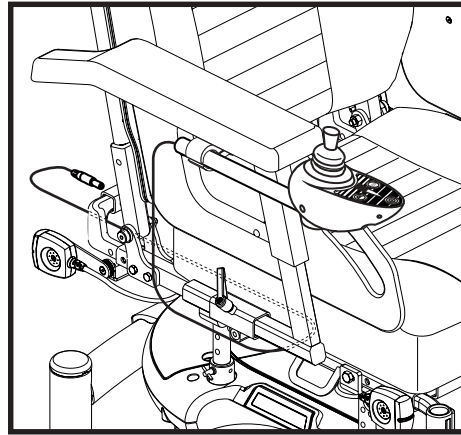

Figure 16. Cable Routing
11. Route the controller cable to the back of the power base and reconnect the controller. See figure 16.